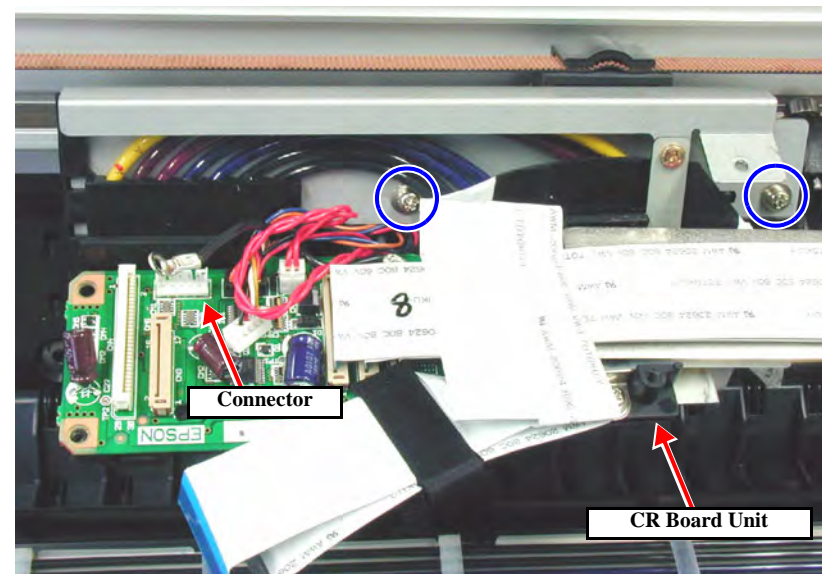

Figure 4-37. CR Encoder Sensor Removal 1/2
7. Remove the two screws securing the CR Board Unit in the Carriage Unit, and take out the CR Board Unit toward the front. (See Figure 4-37)